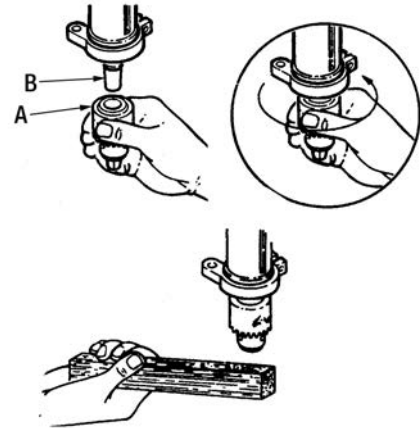

FIGURE 14
1. Locate the chuck (A) Fig.14 in the box of parts.
2. Clean out the tapered hole in the chuck, also clean the spindle nose (B) with a clean cloth. Make sure there are no foreign particles sticking to the surfaces. The slightest piece of dirt on the spindle nose or the chuck will prevent the chuck from seating properly. This will cause the drill to “wobble”.